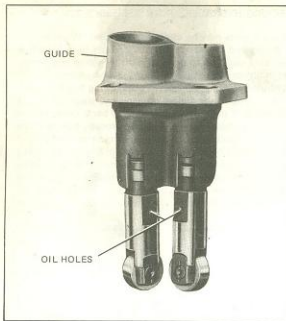

Figure 3-28. Inserting Tappets on Guide
Assemble tappets as follows: Slip tappets (5) into guide (4) so flat surfaces on tappets are toward center of guide as shown in Figure 3-28. If flat surfaces with holes are not toward center of guide, engine oil will not feed across and one hydraulic unit cannot fill with oil. Assemble tappet guide gasket dry and insert tappet assembly in place on gearcase, holding tappets in place with thumb and forefinger as when unit was removed.